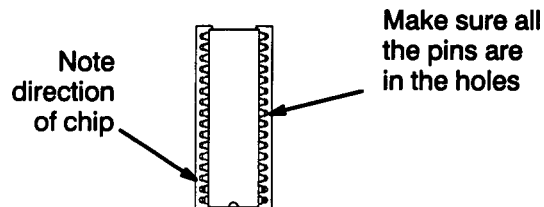

Fig 11
5. Install the new software chip with the last row of pins in the last row of holes. Make sure the ship is facing the correct direction and all the pins are in the holes. See Fig 11.